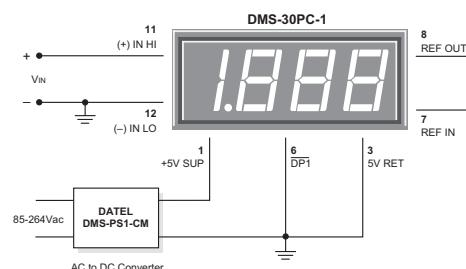

Figure 2. Single-Ended Input Configuration
1. Single-Ended Input Configurations: True single-ended measurements can be made with any DMS-30PC meter. The circuit of Figure 2 avoids problems normally associated with ground-loop currents. Separate ground runs should be used for 5V RETURN (pin 3) and (-) INPUT LO (pin 12). This will ensure that large LED currents will not flow in the wiring that connects V_{IN} to (-) INPUT LO (pin 12). Ground-loop currents can cause unstable readings.